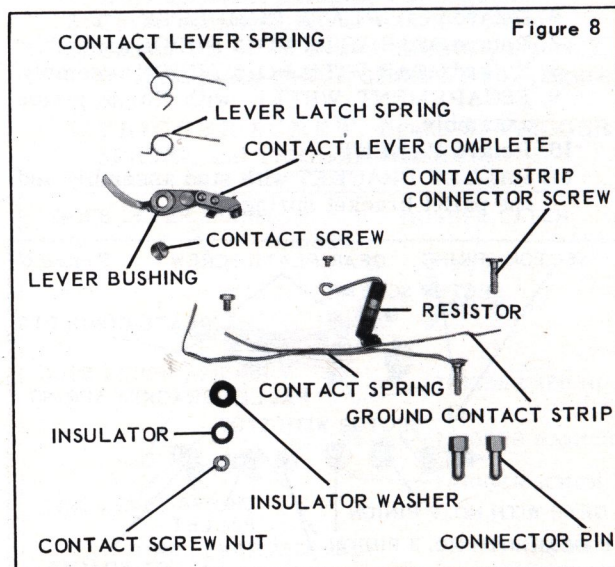

Figure 8
6. CONNECTOR PINS, figure 8, using Tool No. 635.
8. Ground CONTACT STRIP CONNECTOR SCREW, figure 8.
1. If a new contact lever is to be used, place the contact LEVER LATCH SPRING, figure 8, on the contact LEVER BUSHING, with the long end of the spring at the bottom. Lift the long end of the spring and rest it against the outside edge of the spring lug on the contact lever latch. Form the short end of the spring around the vertical part of the contact lever tail. Then place the CONTACT LEVER SPRING on the contact lever bushing. Bend the last 1/8 inch of the long end of the spring clockwise at least 15 degrees.
7. Ground CONTACT STRIP CONNECTOR SCREW, figure 8.
1. Place the contact LEVER LATCH SPRING, figure 8, on the contact LEVER BUSHING, with the long end of the spring at the bottom and facing the shutter blades. Lift the long